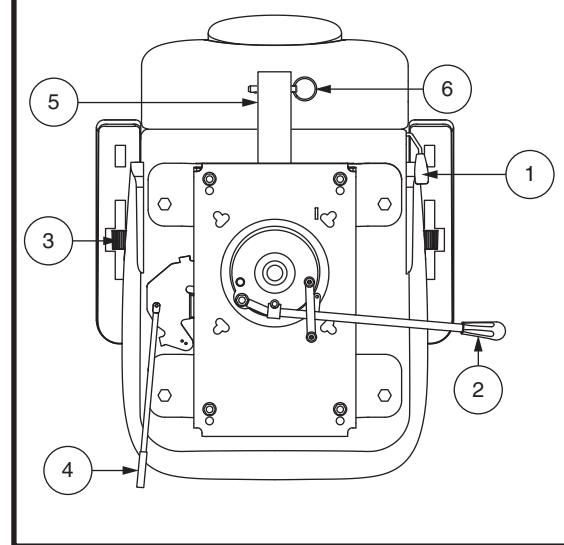

Figure 15. Seat Adjustments
To adjust your scooter's reclining seat, you can adjust the seatback angle with the seatback adjustment lever. See figure 15.
1. Pull upward on the seat rotation lever to disengage the seat. See **figure 15**.
Armrest angle of your scooter can be adjusted upward or downward by turning the adjustment dial. See **figure 15**.
1. Move the seat sliding lever located at the lower left side of the seat outward. See **figure 15**.
The rear-mounted accessory bracket allows you to attach a personal accessory such as a basket, walker holder, or oxygen tank to the back of your scooter. Utilize the detent pin to securely mount your item to the accessory bracket. See **figure 15**. See your authorized Provider for details.